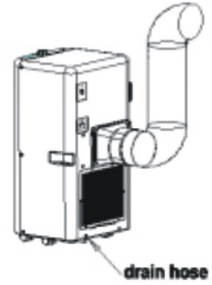

Fig. 7
- 4) As shown in Fig. 7, connect water pump drain hose well (only for heat pump type).